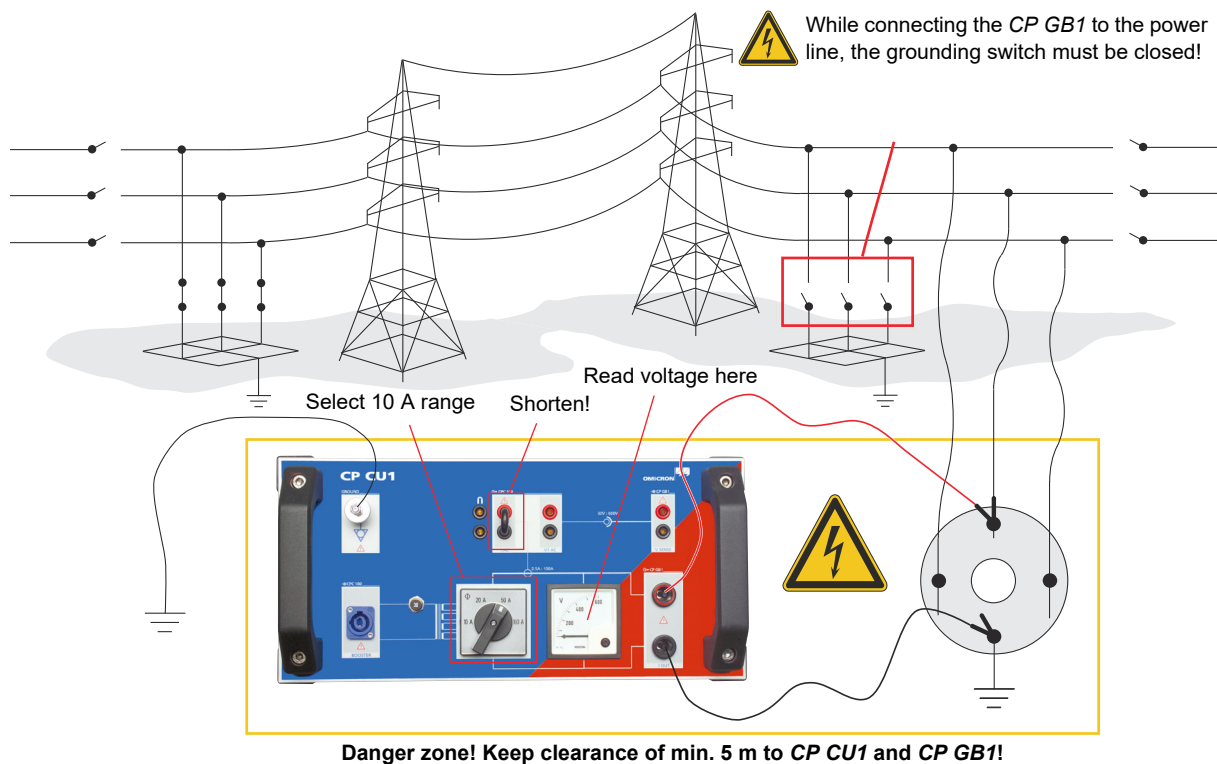

Figure 3-2: Measuring the coupled voltage with the *CP CU1*
- Set up the *CP CU1* and the *CP GB1* according to Figure 3-2 below. The Kelvin clamps on the grounding box must be connected to the phase where the highest circular current has been measured and ground.
In the example in Figure 3-2 the *CP CU1* is connected to L2 and ground.
3. Connect the cables of the grounding set used for estimating the open-line voltage (see step 3. on page 25) to the *CP GB1*. (See Figure 3-2: on page 26).
6. Connect the *CP CU1* with the *CP GB1* as shown in Figure 3-2: on page 26.